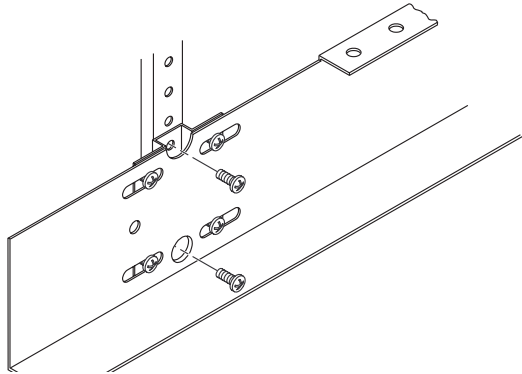

FIGURE 2-3 Attaching the Mounting Rails to the Rear of the Cabinet
- a. **Face the rear of the cabinet and insert two #10 screws through the cabinet rail and into the mounting rail bracket (FIGURE 2-3).**